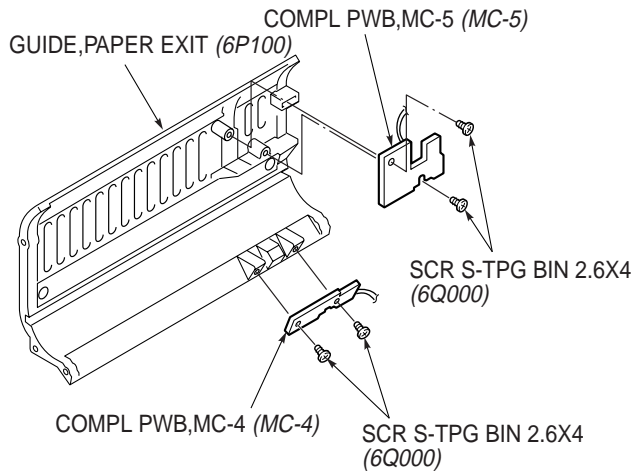

Fig. 3-16-2
- 4) Remove the two “SCR S-TPG BIN 2.6X4 (6Q000)” and remove the “COMPL PWB,MC-5 (MC-5)”. (Refer to Fig. 3-16-2.)